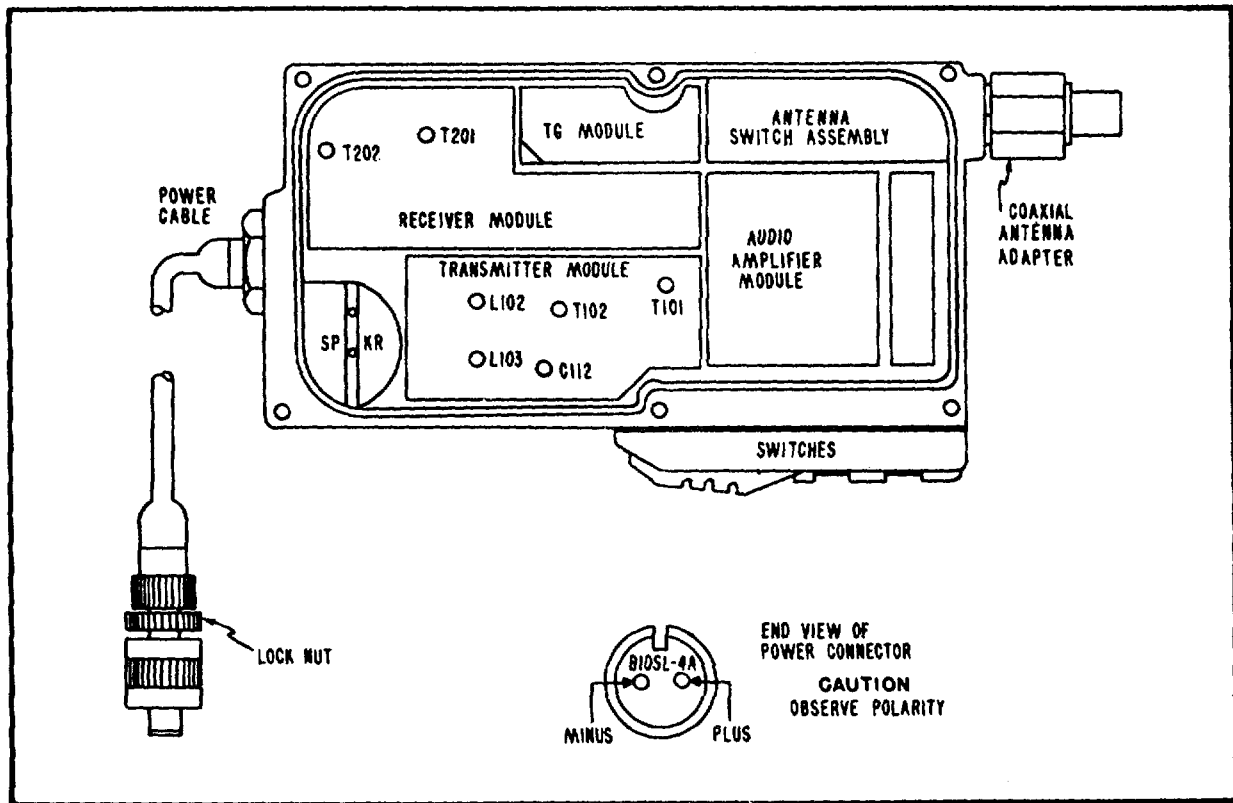

Figure 6-9. Receiver-Transmitter RT-278A/URC-10, Module and Alignment Locations
**6-31. TRANSMITTER MODULE ALIGNMENT (RT-278A/URC-10 or ACR RT-10).** (See figure 6-9.)
6-33. RECEIVER MODULE ALIGNMENT RT-278A/URC-10 or ACR RT-10). (See figure 6-9.)